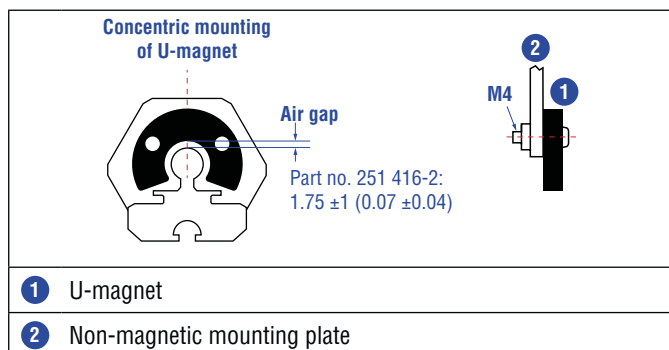
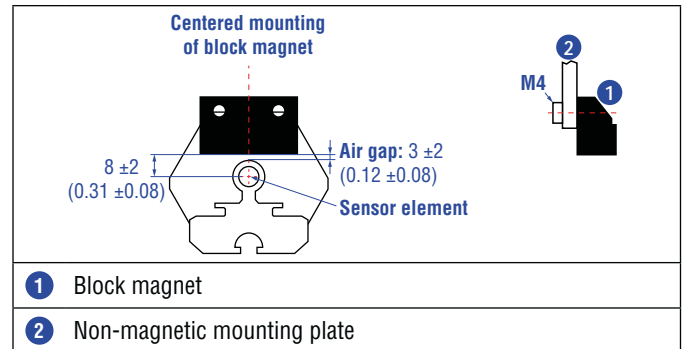

Fig. 30: Mounting of U-magnet (part no. 251 416-2)
Fig. 31: Mounting of block magnet (part no. 403 448)
- Mount block magnets centrically over the sensor rod or the sensor profile. The maximum permissible air gap must not be exceeded (Fig. 30/ Fig. 31).